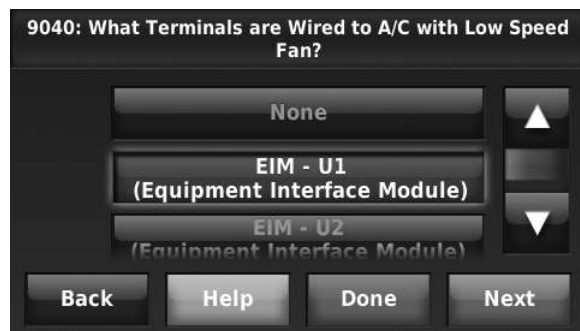

Fig. 243.
4. Select the terminals wired to the A/C with Low Speed Fan or Hot Gas Bypass. See Fig. 243.